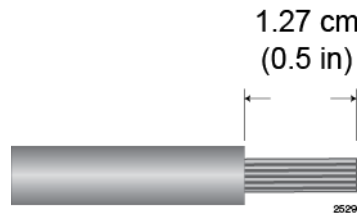

Figure 112. Stripping the Stranded Grounding Wire
1. Prepare an adequate length of stranded 10 AWG grounding wire by stripping it as shown in Figure 112.